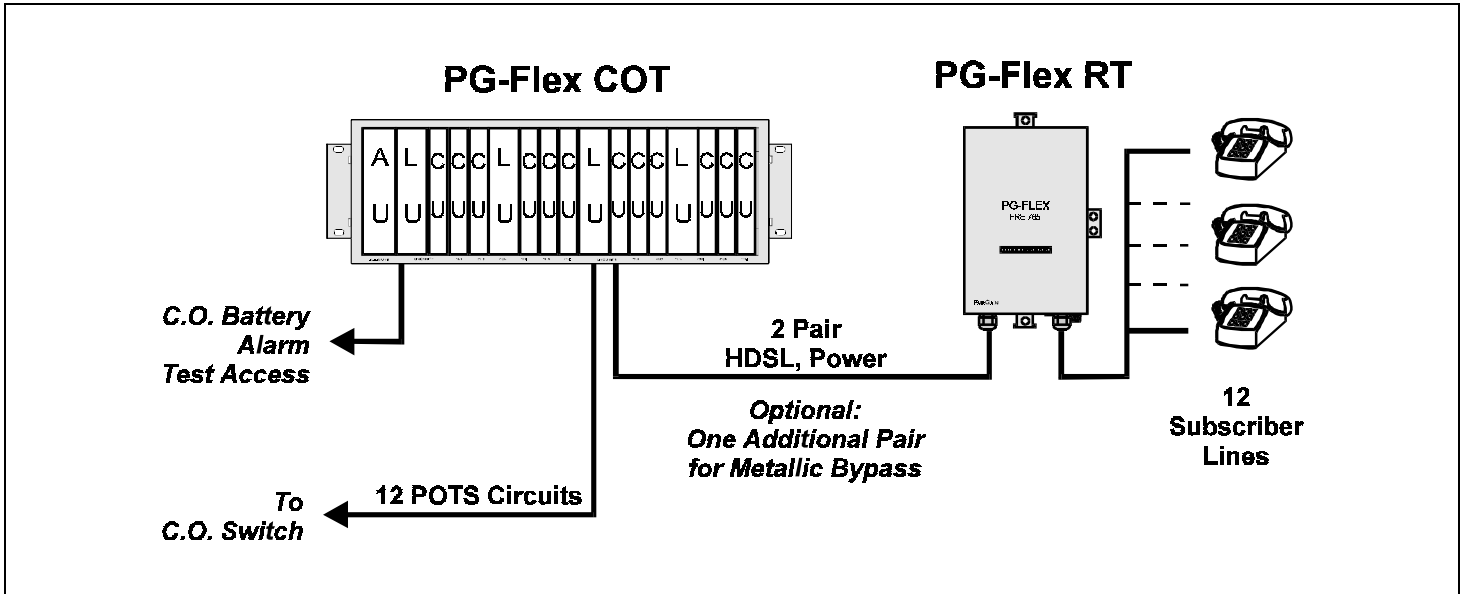

Figure 2 Typical PG-Flex Configuration.
2.02 System Flex Configuration. A PG-Flex system, shown in Figure 2 consists of:
2.05 For the system configuration depicted in Figure 2, the maximum distance between the COT and the RT is 12.3 kft (3.8 km), assuming the HDSL lines are 24 gauge. Table 1 shows the maximum distance between the COT and RT for various gauge wire. Due to the nature of HDSL transmission technology, the HDSL lines do not require any special conditioning and may include unterminated bridge taps, but cannot include load coils.